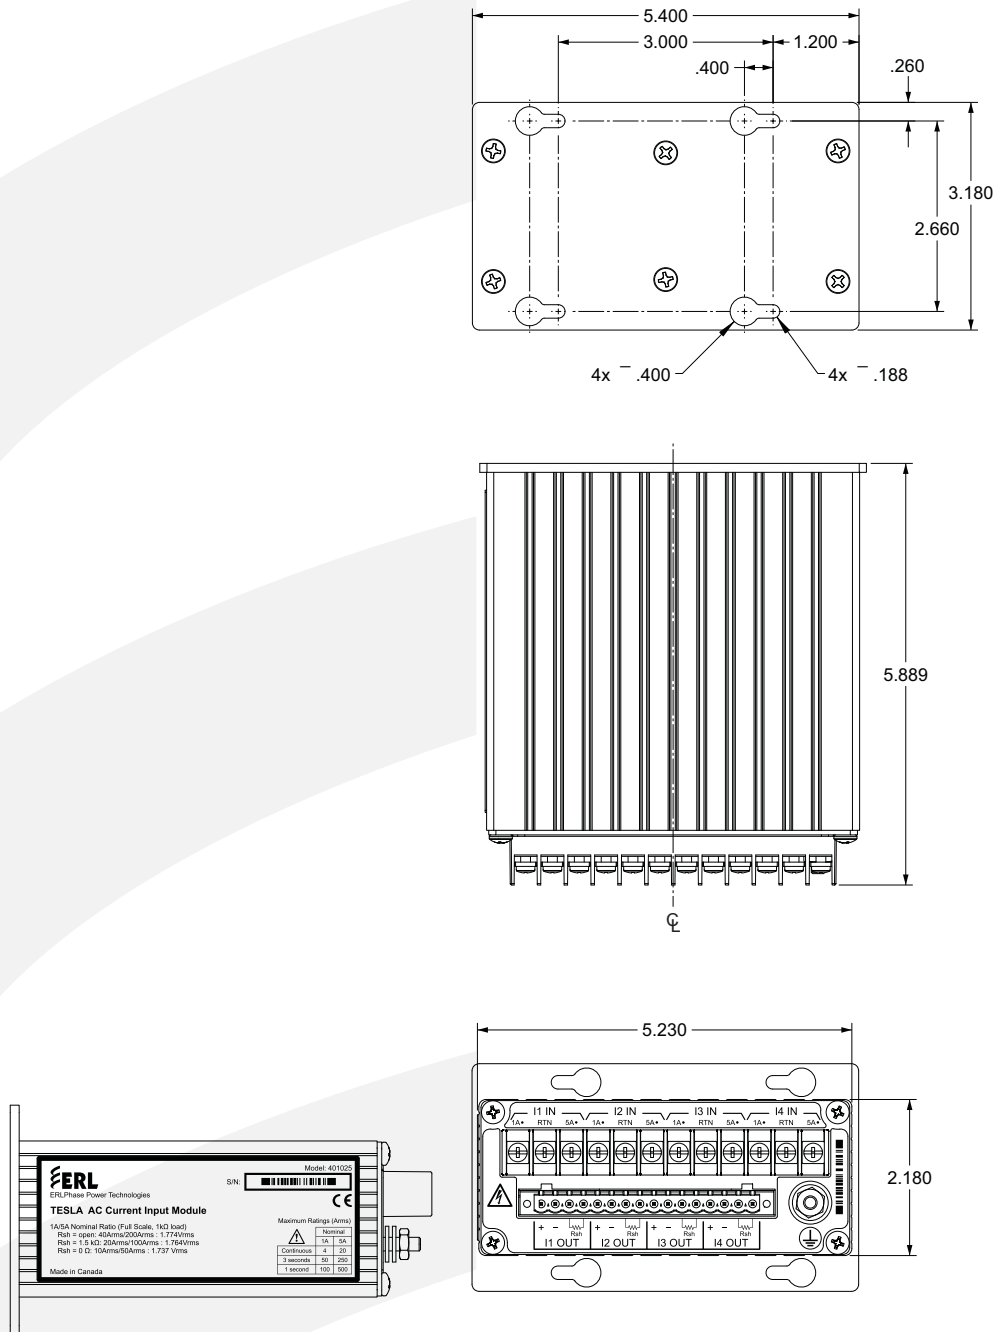

Figure F3: Part No 114261 4 Channel AC Current Input Module – Rack Mount
- Part No 114260 – Rack mount – Figure F3